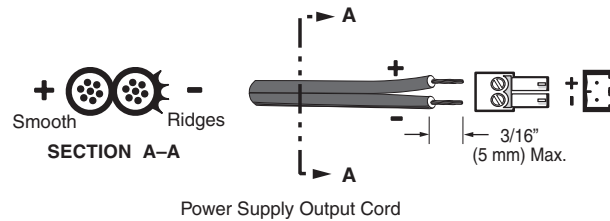

Figure 4. Power Connection
- A Power input** — Connect the provided power supply to the 3.5 mm, 2-pole captive screw power receptacle (see figure 4).